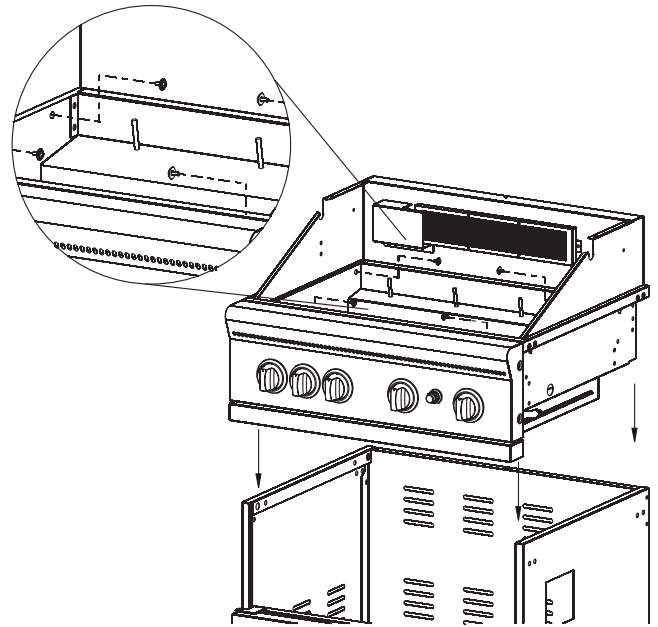

Figure 4
10. Place grill head onto cart. Attach grill head to cart from inside of the grill with four (4) lock washers, and 1/2" screws. See Figure 4.